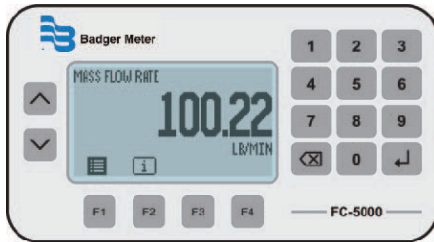

Figure 1: Single display
- FLOW RATE (Figure 1)
- FLOW TOTAL (Figure 1)